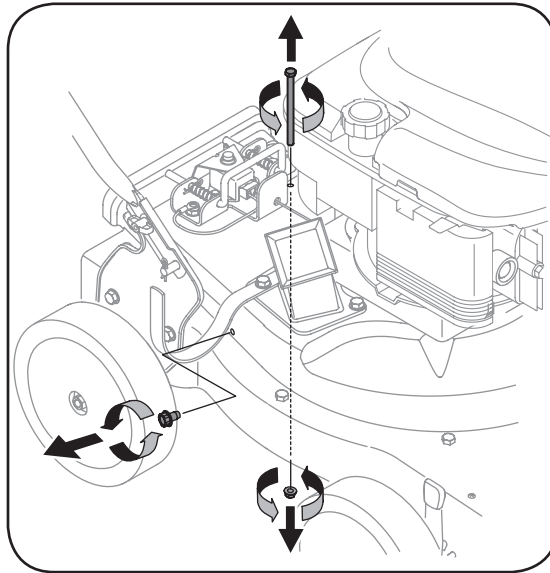

Figure 5-1
4. Remove self-tapping screw on right side of unit that attaches to the flail screen. It may be necessary to remove the hose bracket hanger to get access to the hex screw. See Figure 5-1.
5. Remove hex screw on top of rear housing mounting bracket and the flange lock nut that secures flail screen. See Figure 5-1.
6. Remove flange lock nut that secures flail screen to the lower housing. The flail screen does not have to be removed. Refer to Figure 5-1.